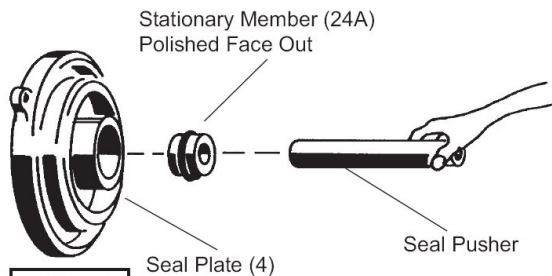

FIGURE 8
Clean and oil seal cavities in seal plate (4). Lightly oil (**DO NOT use grease**) outer surface of stationary member (24a). Press stationary member (24a) firmly into seal plate (4), using a seal pusher. Nothing but the seal pusher is to come in contact with seal face (see Figure 8). Make sure the stationary member is in straight. Slide a bullet over motor shaft.